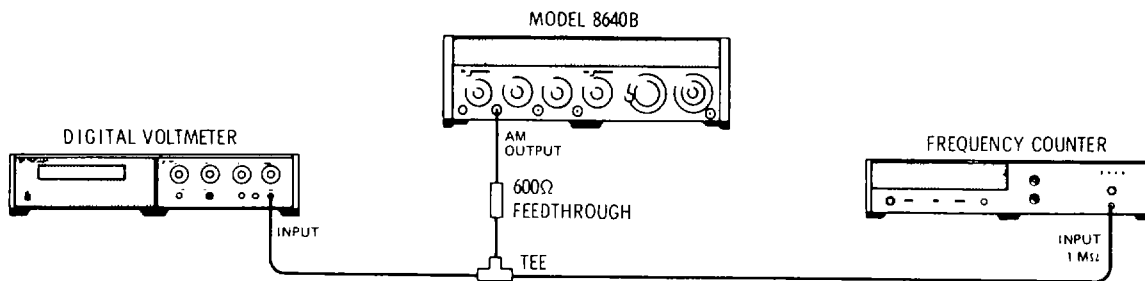

Figure 4-16. Internal Modulation Oscillator Test Setup.
- 1. Connect equipment as shown in Figure 4-16 after setting Signal Generator's controls as follows: